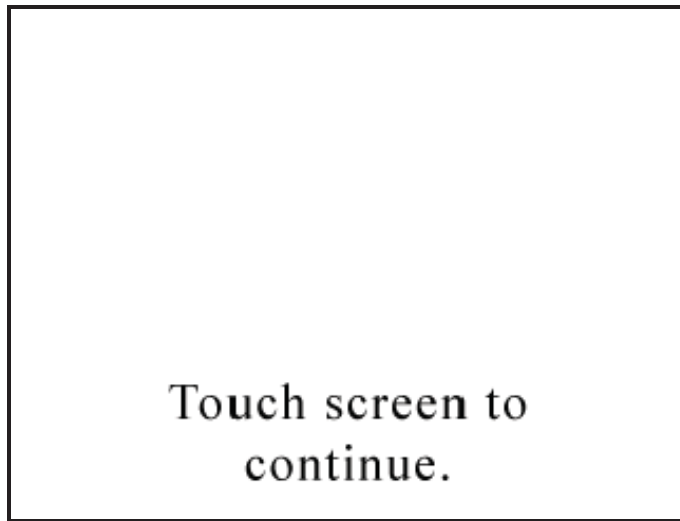

Figure 5-31 Calibration Saved Screen
- The unit will save the settings and display the MAIN screen as shown in Figure 5-31.